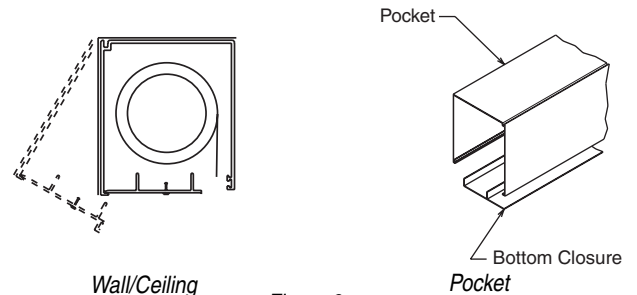

Figure 2
- ② Remove face cover from head box by pulling down and out on the bottom edge of cover near end caps. It will snap off (see Fig. 2). If this is a pocket installation, remove screws at endcaps. The bottom of the cover box snaps down and off at endcaps then slides out of slot in cover box (see Fig. 2).
- ③ Remove roller assembly from headbox. (NOTE: If unit is motorized with a